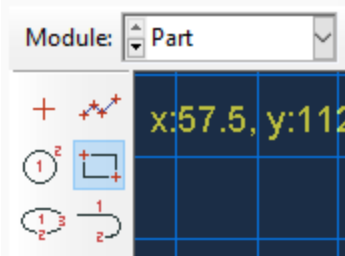

Figure 1-5 – Rectangle sketch tool.
3. To sketch the profile of the cantilever beam, you need to select the **rectangle drawing tool**, as shown in Figure 1-5.